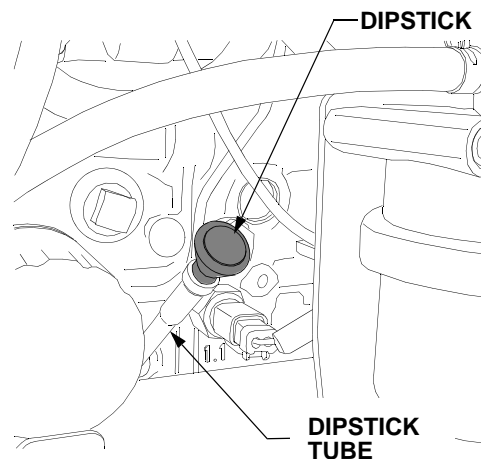
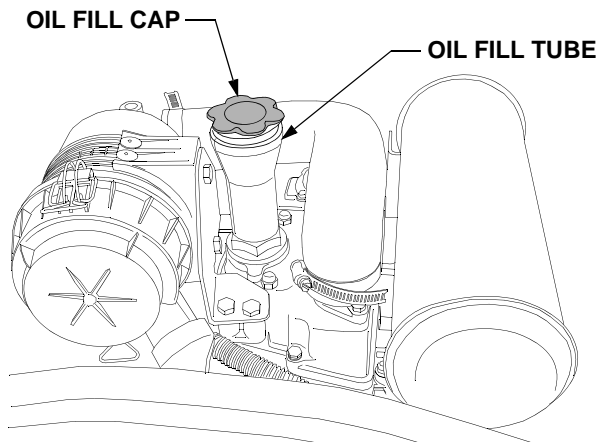

Figure 51
Figure 53
- Check the oil level only while the engine is stopped and the tractor is level. Clean the area around the oil level dipstick to prevent debris from entering the crankcase. See Figure 51.
- Clean the area around the oil filler cap to prevent debris from entering the crankcase. See Figure 53.
- Remove the dipstick and oil fill cap from the engine. Refer to Figure 51 and Figure 53.